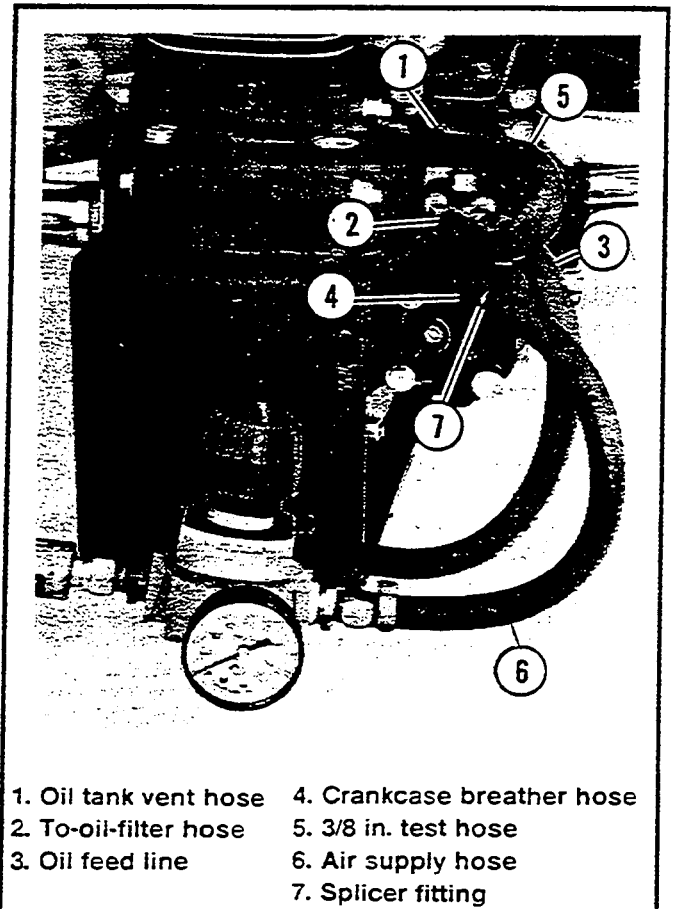

Figure 3. Test Set-up
6. See Figure 3. Remove the oil tank vent hose (1) at right crankcase and the to-oil-filter hose (2) at the oil pump. Do not disconnect oil feed line (3).
7. Disconnect the crankcase breather hose (4) at the metal tube that is connected to the air cleaner backplate.
8. With a short length of 3/8 I.D. hose (5), connect the oil tank vent fitting to the to-oil-filter fitting on the oil pump. (This connection seals the tank vent.)
9. See Figure 3. Connect the regulated air supply (10-15 psi) hose (6) to the crankcase breather hose (4) using a 3/8 hose nipple (7) (splicer fitting).